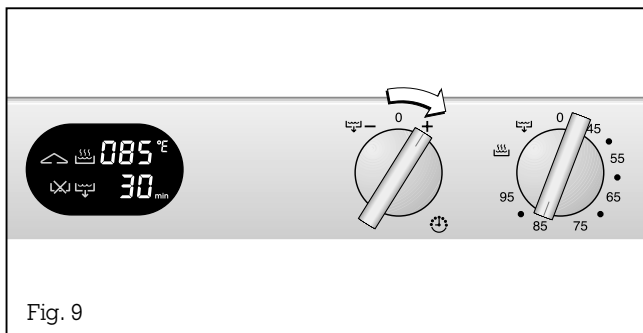

Fig. 9
- Turn the “Timer” knob to the + or - setting until the time you require appears on the display (Fig. 9). The set time elapses as soon as the control knob is again in the zero position. After the set time, the appliance switches off automatically and an audible signal is sounded.